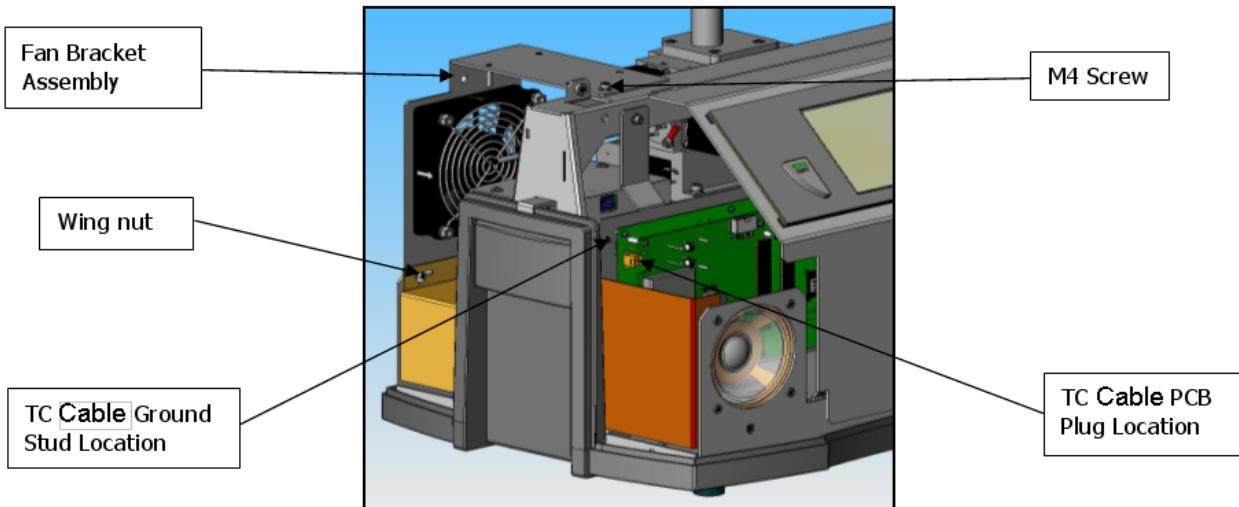

Figure 2: Fan and TC Gauge Assemblies
5. Disconnect the fan cable and remove the fan assembly by unfastening two wing nuts and one M4 socket head cap screw (Figure 2: Fan and TC Gauge Assemblies).
- c. Detaching the cable plug from the mother board PCB and disconnecting the ground cable form the chassis (Figure 2: Fan and TC Gauge Assemblies).
- f. Attaching the cable plug and the chassis ground to the location (Figure 2: Fan and TC Gauge Assemblies).
8. Attach the fan assembly (Figure 2: Fan and TC Gauge Assemblies) by fastening the two wing nuts and one M4 socket head cap screw. Then connect the fan cable to the unit.